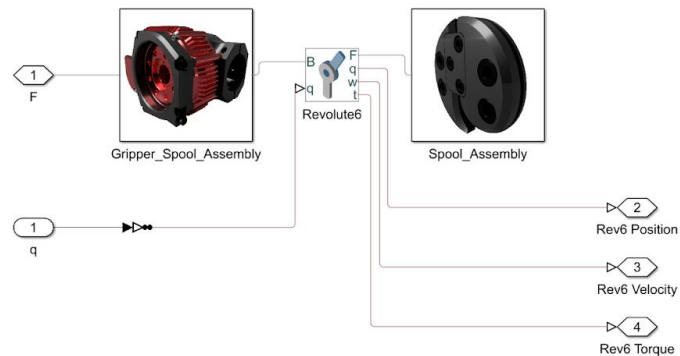

Figure 13: Gripper Spool Subsystem
20. Open the “Gripper Spool” subsystem block, neatly arrange the subsystem, and ensure the blocks are named as shown in figure 13.